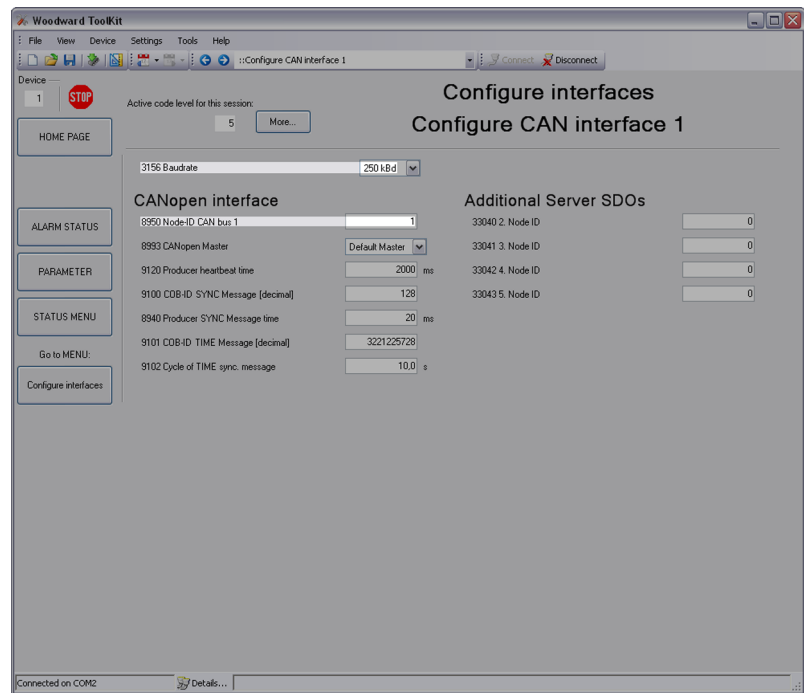

Fig. 35: ToolKit configuration CAN interface 1 (example)
1. ➤ Select "Parameter → Configure interfaces → Configure CAN interface 1" (Refer to Fig. 35 for details).